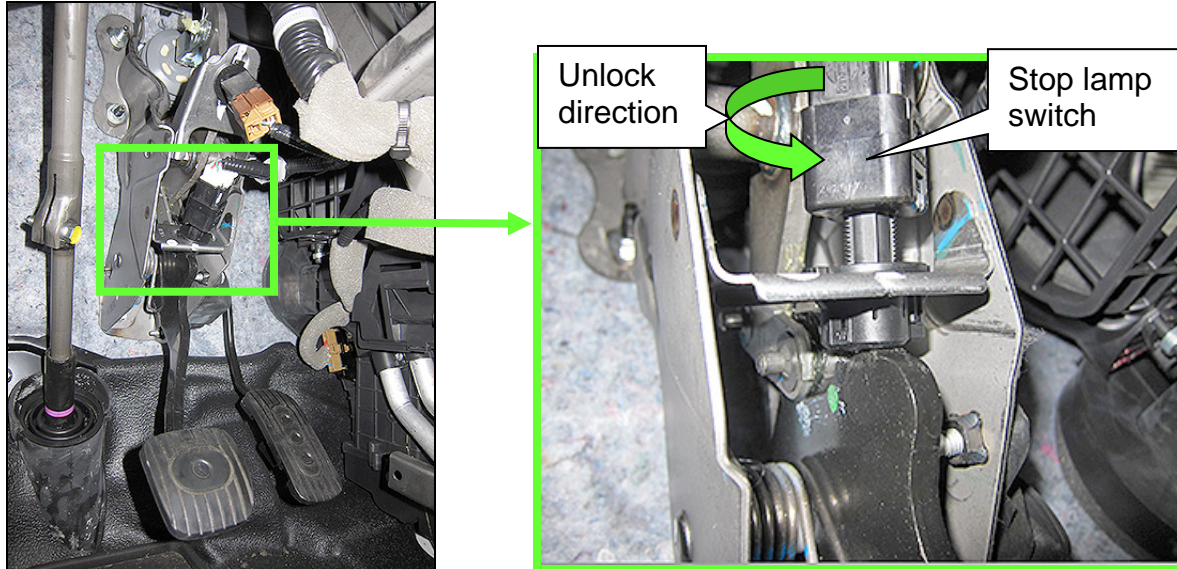

Figure 30
- a. Turn the stop lamp switch (black switch, Figure 30) 45° counterclockwise to unlock.